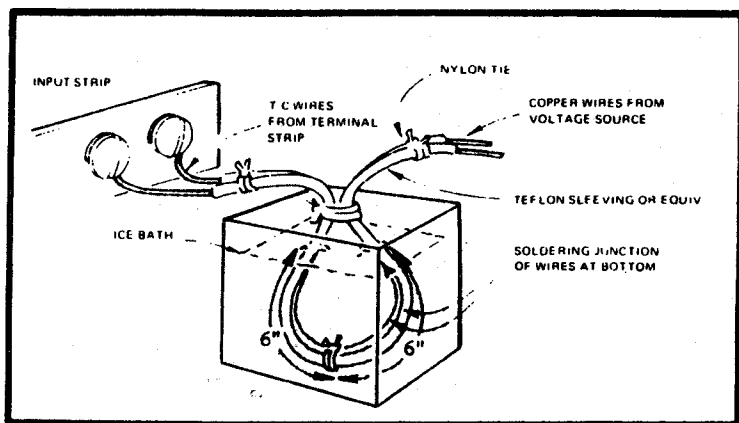

FIGURE 4-2. PREPARING WIRES FOR ICE BATH
- b. Connect the DC calibrator and ice bath to the instrument as shown in the set-up diagram in Figure 4-2.
The Analog Output board is provided with three pots for calibration. See Figure 4-4. Use the calibration set-up shown in Figure 4-2 to calibrate the Analog Output board. Connect a known source to the indicator from which the Analog Output board is converting. Connect a DVM with 100 μ V resolution to the output terminals of the Analog Output board. Adjust R18 (zero), R14 (+ full scale), and R13 (-full scale) with the appropriate input in that order until the millivolt output agrees with the indicator display in the following fashion: